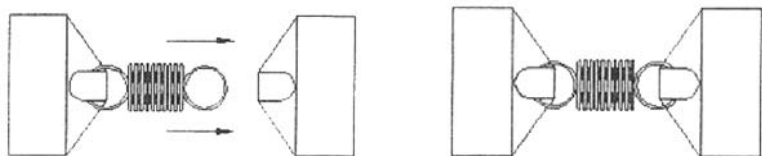

Figure 1
2. Wrap the warmer around the drum. Extend the spring attached to the metal tab; latch the spring loop onto the hook on the opposite side as shown in **Figure 1** on the page 5.